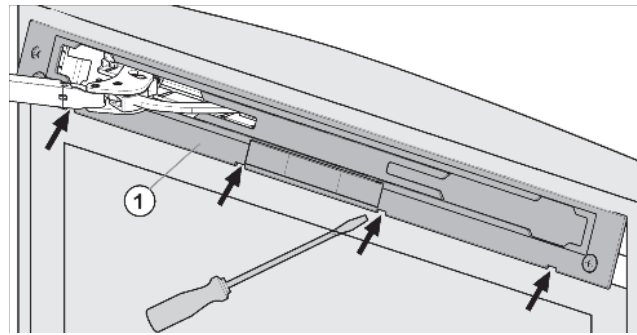

Fig. 5
- ▶ Release panel Fig. 5 (1) using a slotted screwdriver and remove.